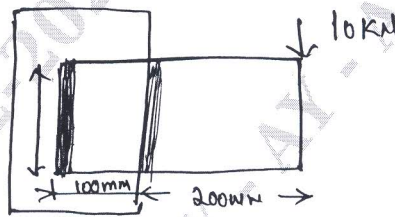

Fig.Q8(b)
- b. A welded connection is as shown in Fig.Q8(b). If the allowable stress is 100MPa. Determine the size of the weld.